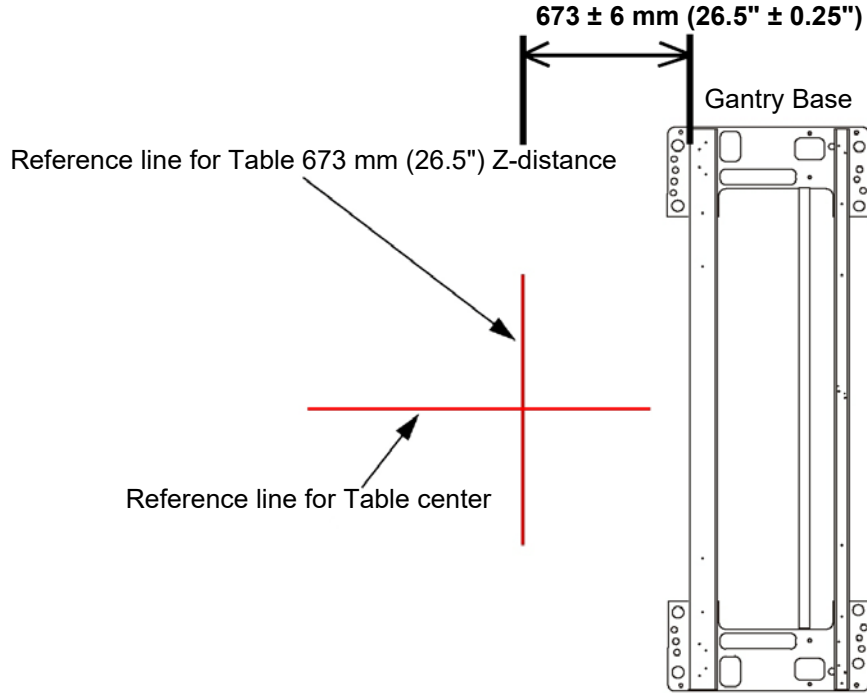

Figure 1-27 Draw Reference Line for Table Center
- 3.) Recheck the table-to-gantry reference line for $673 \pm 6 \text{ mm}$ ($26.5'' \pm 0.25''$) Z-distance. Refer to Figure 1-27.